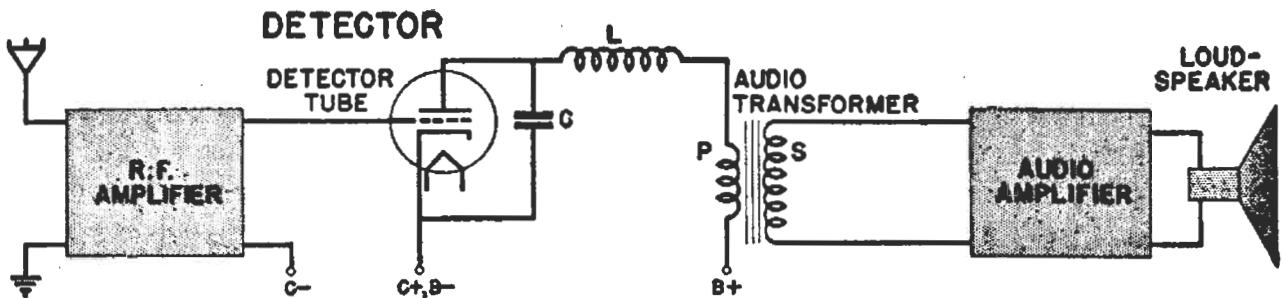

FIG. 19. Simplified detector circuit of a t.r.f. receiver.
**The Detector.** Now that the modulated r.f. signal has been built up sufficiently in strength, the r.f. carrier signal is no longer needed; in fact, we must get rid of the r.f. carrier now, so it will not interfere with the operation of the remaining stages. We separate the audio signal from its r.f. carrier with a vacuum tube operated in a special manner in the *detector* stage. A simplified version of one common type of detector circuit is shown in Fig. 19.
The signal current which gets through coil  $L$  and also flows through the primary of the audio transformer in Fig. 19 is the *audio signal* we want. Its pattern is shown in Fig. 20B, and is simply the pattern of Fig. 20A with the vertical lines of the r.f. signal removed.